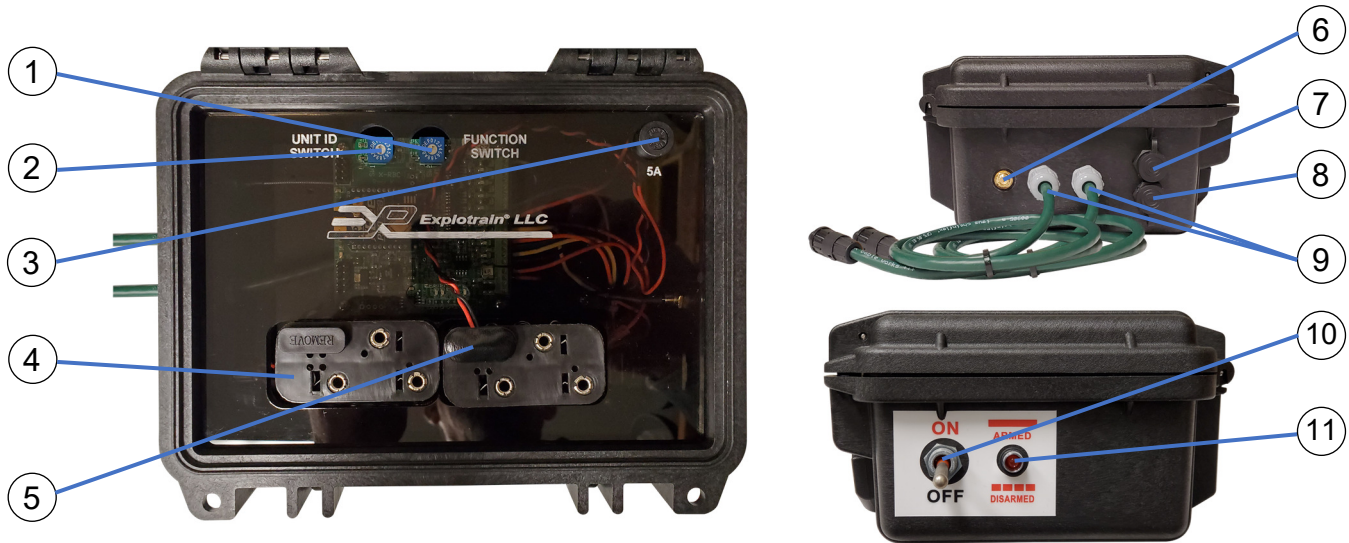
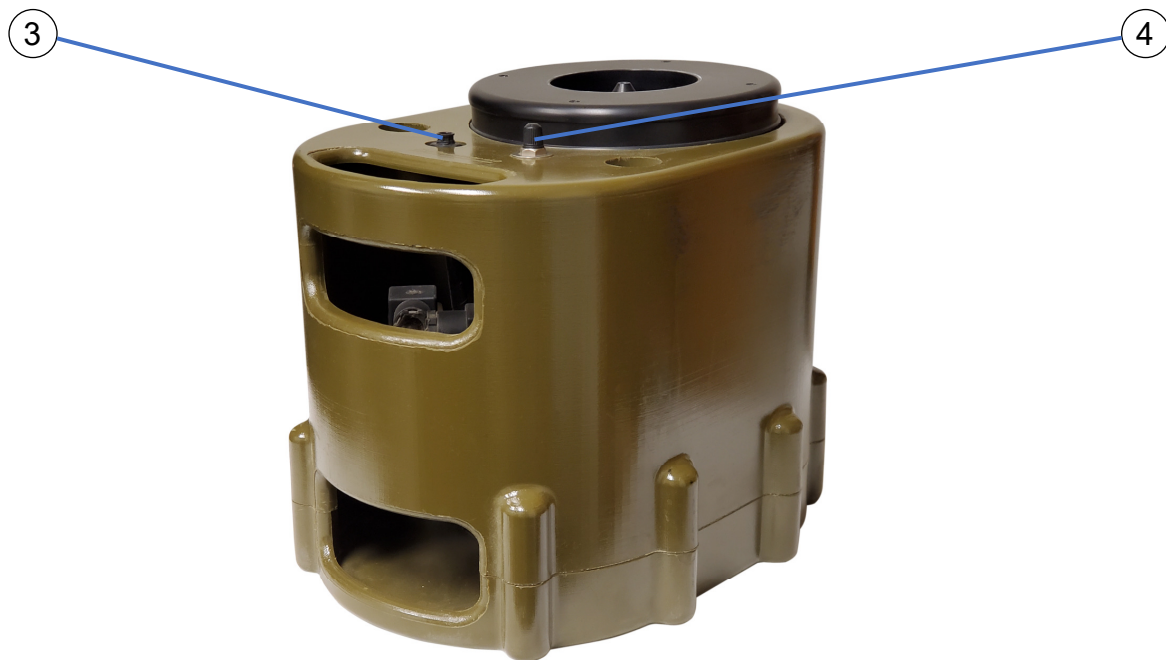
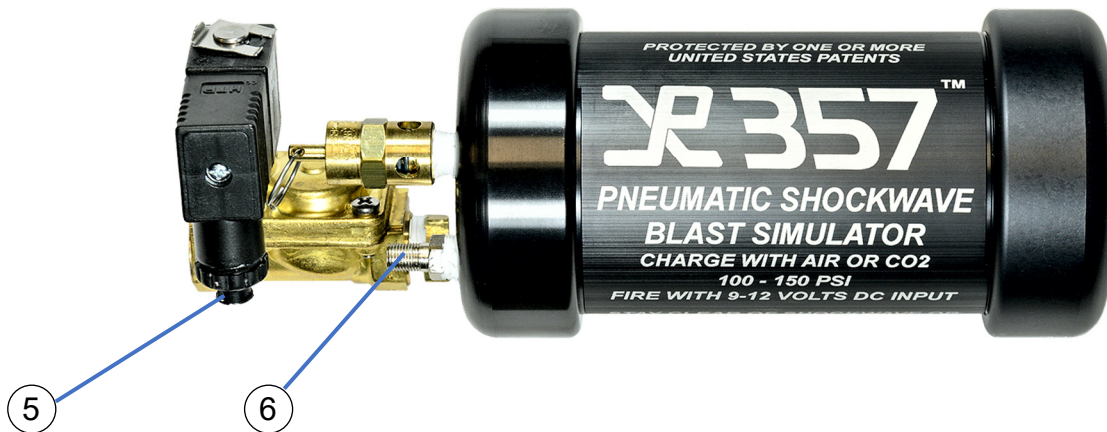

FIGURE 1
FIGURE 3
FIGURE 4
2. Ensure the Mode Switch (#10, Figure 1) is in the OFF position and connect the Battery Connector to the Battery Pack as shown.
CAUTION: Ensure the Mode Switch (#10, Figure 1) is OFF before attempting to connect batteries.
1. Connect a green XP Output Cable (#9, Figure 1) from the X-LRRB Control Box to the 2-pin connector on the standard XP-870 configuration (#2, Figure 2) or to the 2-pin connector on top of the housing (#3, Figure 3) if you are using the Armored Housing configuration. Twist the knurled shell to lock into position.
2. With X-LRRB Control Box Mode Switch (#10, Figure 1) in the OFF position connect battery pack as show in Figure 1.
3. Fill the XP-870 through the Air Fill Valve (#1, Figure 2 or #4, Figure 3) as described on Page 4 in the XP-870 Operator's Manual.
4. Set the X-LRRB Control Box to the desired Unit ID position (#2, Figure 1). Note: The Function Switch position controls the length of the firing pulse and is set to 2 at the factory.
5. Flip Mode Switch to the ON position. The Arm/Disarm LED (#11, Figure 1) will blink slowly to indicate it is DISARMED. Note: When the unit in the ARMED mode, the LED will stay on.
1. Connect a green XP Output Cable (#9, Figure 1) from the X-LRRB Control Box to the 2-pin connector installed on the valve solenoid on the XP-357 (#5, Figure 4).
2. With X-LRRB Control Box Mode Switch in the OFF position connect battery pack as show in Figure 1.
3. Fill the XP-357 through the Air Fill Valve (#6, Figure 4) as described on Page 2 in the XP-357 Operator's Manual.